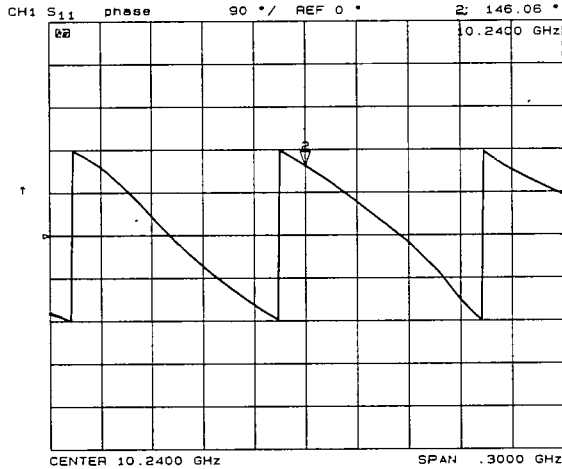

Figure 4-10. Phase Format
**[PHASE]** (PHAS) displays the phase shift of the data versus frequency in a Cartesian format, as illustrated in Figure 4-10. A measurement of phase response is described in the *User's Guide*.